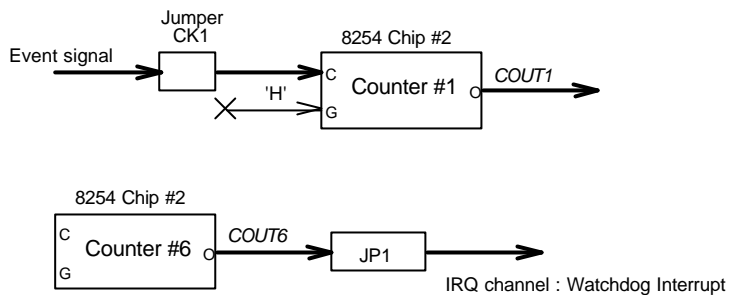

Figure 4.7 Example of event counter
- step 8: Connect the signal according to Figure 4.7.